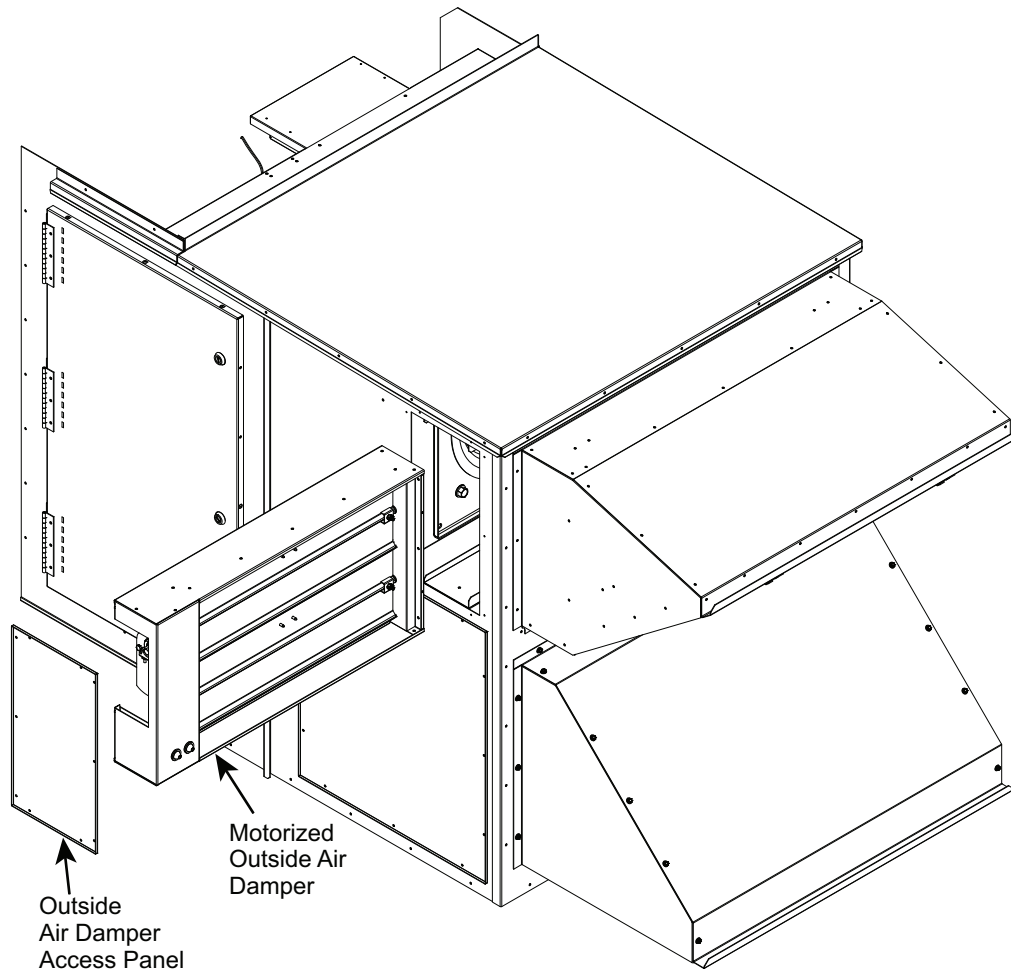

Fig. 55 — Outside Air Motorized Damper Removal
4. Slide out the outside air motorized damper by pulling it along the track guides. See Fig. 55.